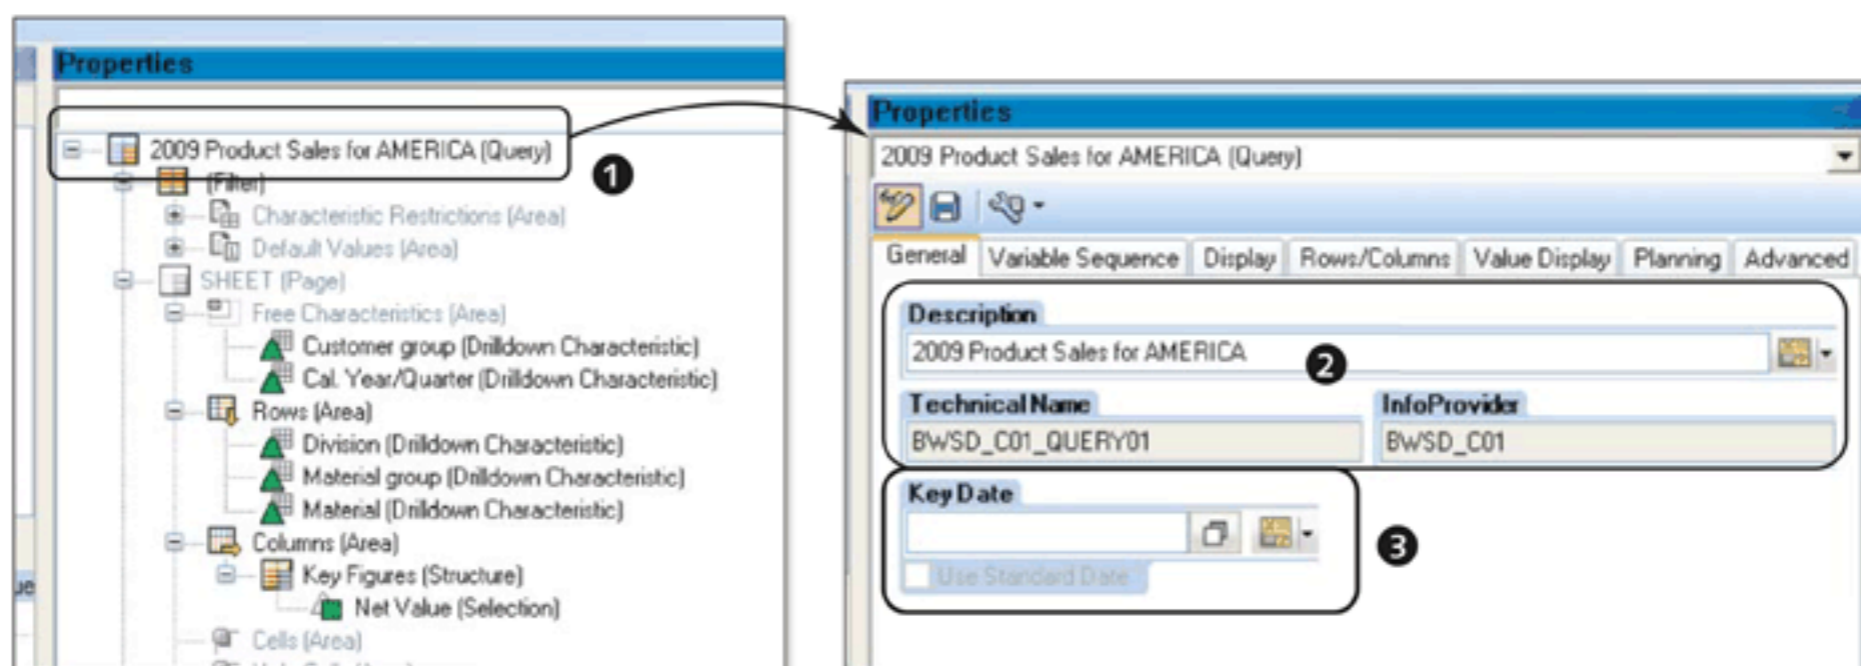

Figure 9.77 Query Properties: General Tab
Different properties that are defined at the query level are discussed in this section. To display the query properties, select the query node from the dropdown available in the PROPERTIES area (❶ of Figure 9.77).
The GENERAL tab of query properties displays the TECHNICAL NAME and allows you to maintain the DESCRIPTION of the query (❷ of Figure 9.77). This description is visible to the report user when the query is executed. You can also use text variables for flexible query description.
If the query involves any time-dependent master data, then the date specified in the KEY DATE field is used to derive the values from the time-dependent data (❸ of Figure 9.77). You can maintain any specific date as a key date in the query, or you can use a characteristic variable on the date as a more flexible option. If nothing is included in the key date settings for a query, then the date of query execution is considered as the key date for that query.